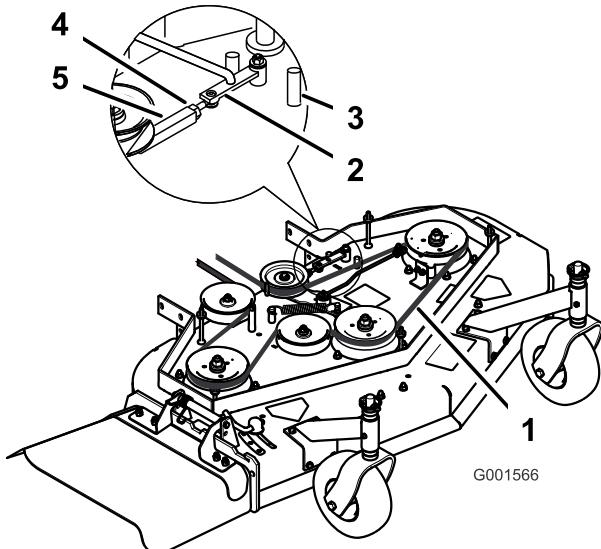

Figure 46
3. Loosen the locknut on the turnbuckle (Figure 46).
4. Rotate the turnbuckle toward the rear of the mower to increase the tension on the belt. Rotate the turnbuckle toward the front of the mower to decrease the tension on the belt (Figure 46).